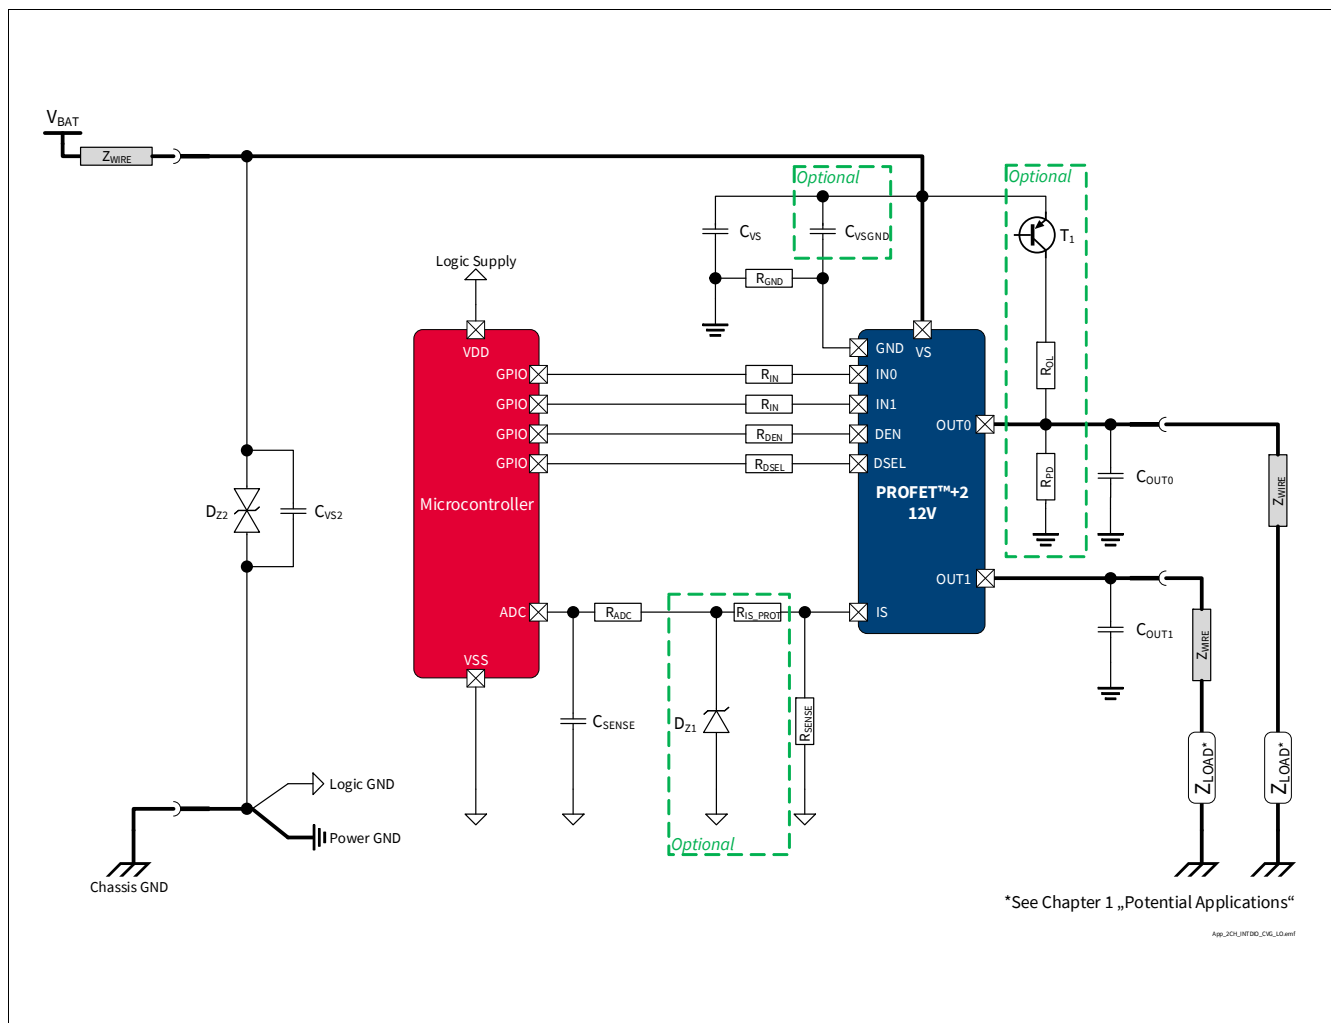

Figure 43 **BTS7012-2EPA Application Diagram**
1.05 , 2019-10-15	P_8.7.3.1, P_8.7.3.7, P_8.7.3.8 updated (added in Note or Test Condition: link to Figure 25) P_7.5.3.4, P_7.5.3.5 updated (added in Note or Test Condition: DEN = “low”; link to Figure 19) P_7.5.3.12 updated (added in Note or Test Condition: see Figure 21; deleted unnecessary space in Symbol: $dV_{OUT} / dt \rightarrow dV_{OUT} / dt$) P_8.7.3.6 updated (added in Note or Test Condition: see Figure 26) P_9.7.3.1 updated (added in Note or Test Condition: See Figure 34) P_9.7.3.6 updated (Min./Typ./Max.: -45%/4800/+45% → -34.0%/4875/+34.0%) P_9.7.3.9 updated (Min./Typ./Max.: -38%/4800/+38% → -25.0%/4875/+25.0%) P_9.7.3.12 updated (Min./Typ./Max.: -34%/4800/+34% → -22.5%/4875/+22.5%) P_9.7.3.15 updated (Min./Typ./Max.: -22%/4800/+22% → -12.5%/4875/+12.5%) P_9.7.3.17 updated (Min./Typ./Max.: -9%/4800/+9% → -7.7%/4875/+7.7%) P_9.7.3.19 updated (Min./Typ./Max.: -6%/4800/+6% → -4.5%/4875/+4.5%) P_9.7.3.21 updated (Min./Typ./Max.: -5%/4800/+5% → -4.0%/4875/+4.0%) P_7.5.3.11 updated (added in Note or Test Condition: see Figure 19) Figure 1, Figure 43 updated Chapter 1 updated (or LED equivalent → or equivalent electronic loads (e.g. LED modules)) P_4.3.0.7 added Table 24 updated Chapter 5.1 updated (added: see Chapter 10 for the complete application setup overview)